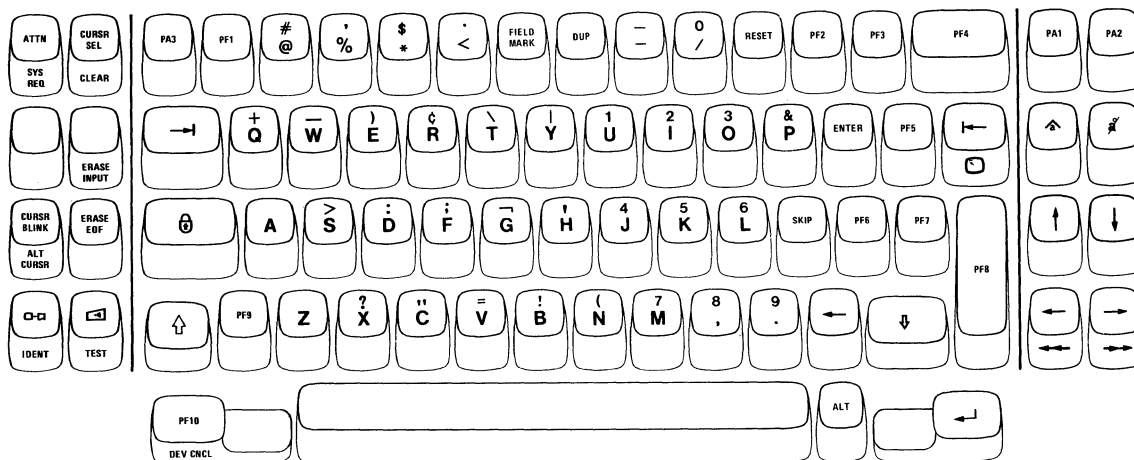

Figure 3-4. 3276 Data Entry-Keypunch Layout Keyboard (See Note)
- The Data Entry-Keypunch Layout keyboard (Figure 3-4), which has the same keys as the IBM keypunch (024-026-029-129) keyboard